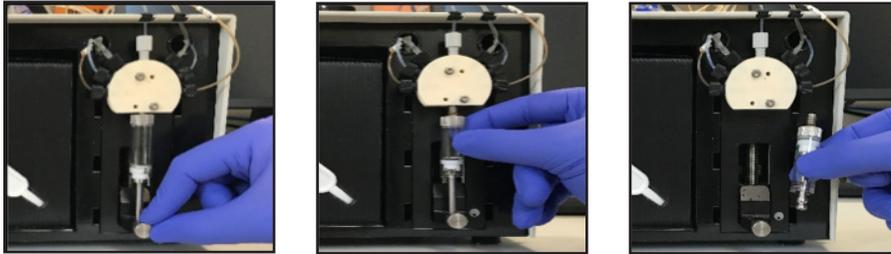

Figure 5.8 Syringe Plunger and Barrel Removal
3. When the syringe plunger is all the way down and the Continue button appears, remove the syringe by loosening the thumb screw at the bottom, then unthread the syringe from the valve assembly to remove it (Figure 5.8).